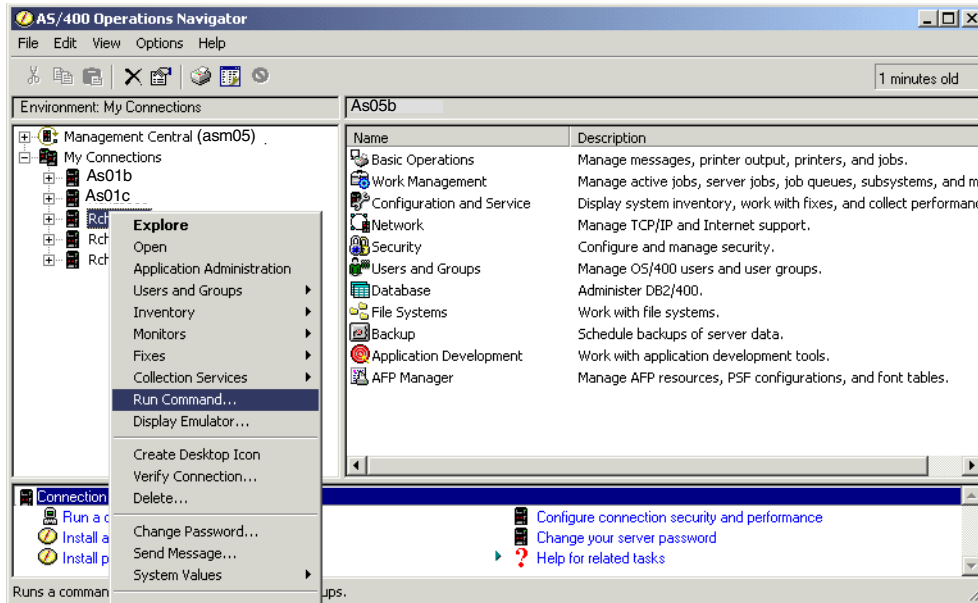

Figure 8-53 Operations Navigator run command display
2. Right-click and select **Run Command** (see Figure 8-53).